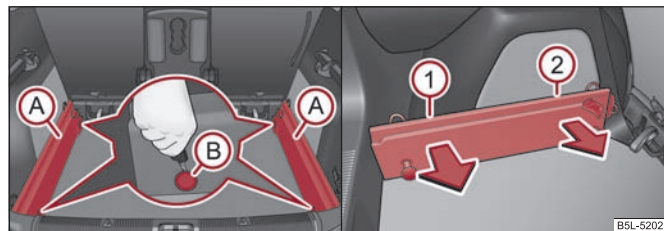

Fig. 75 Luggage compartment: Slacken check points / remove carrier rails
- Slacken the check points (B) ⇒ fig. 75 on the carrier rails using the vehicle key or a flat screwdriver.
- Grasp the carrier rail (A) at the position ① ⇒ fig. 75 and slacken it by pulling in the direction of the arrow.
- Grasp the carrier rail (A) at the position ②, slacken it by pulling in the direction of the arrow and take it out.